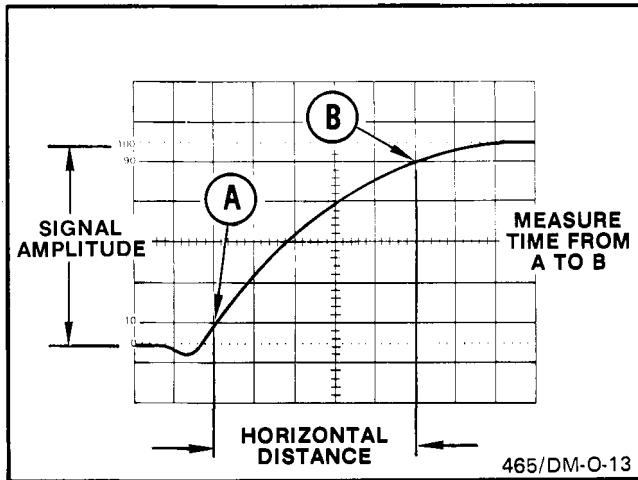

Figure 2-15. Measuring rise time.
2. Adjust the vertical POSITION control so that the display bottom just touches the 0% graticule line and the display top just touches the 100% graticule line (see Figure 2-15).
3. Measure the horizontal distance (divisions) between the 10% and 90% points on the waveform (point A to point B, Figure 2-15).